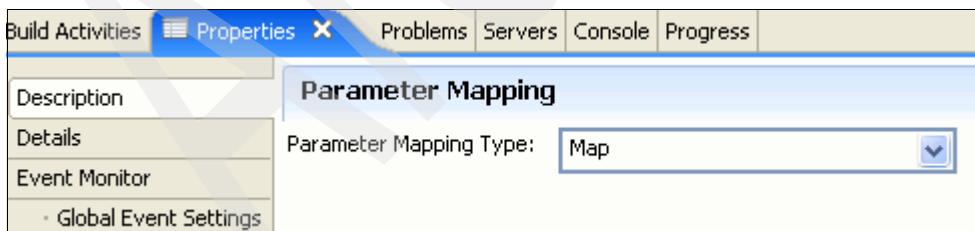

Figure 3-233 Parameter Mapping of type Map
4. Go to the Properties view and change the Parameter Mapping Type to Map as shown in Figure 3-233.